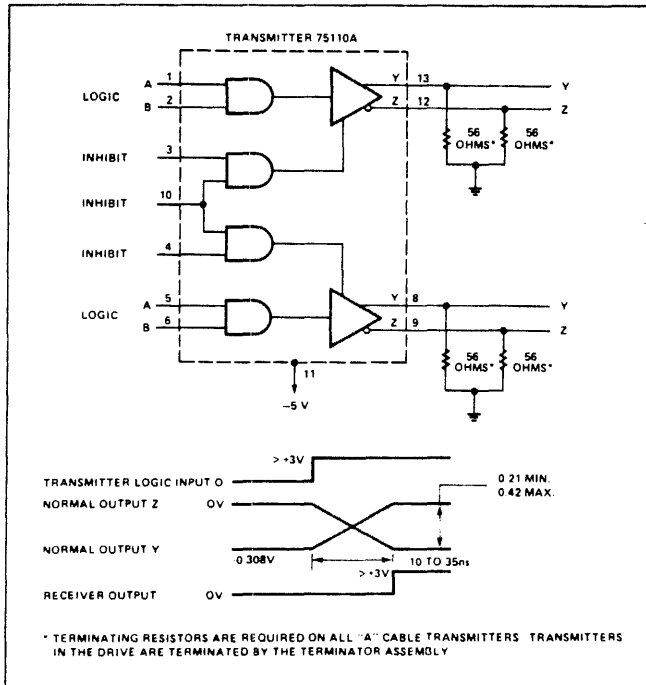
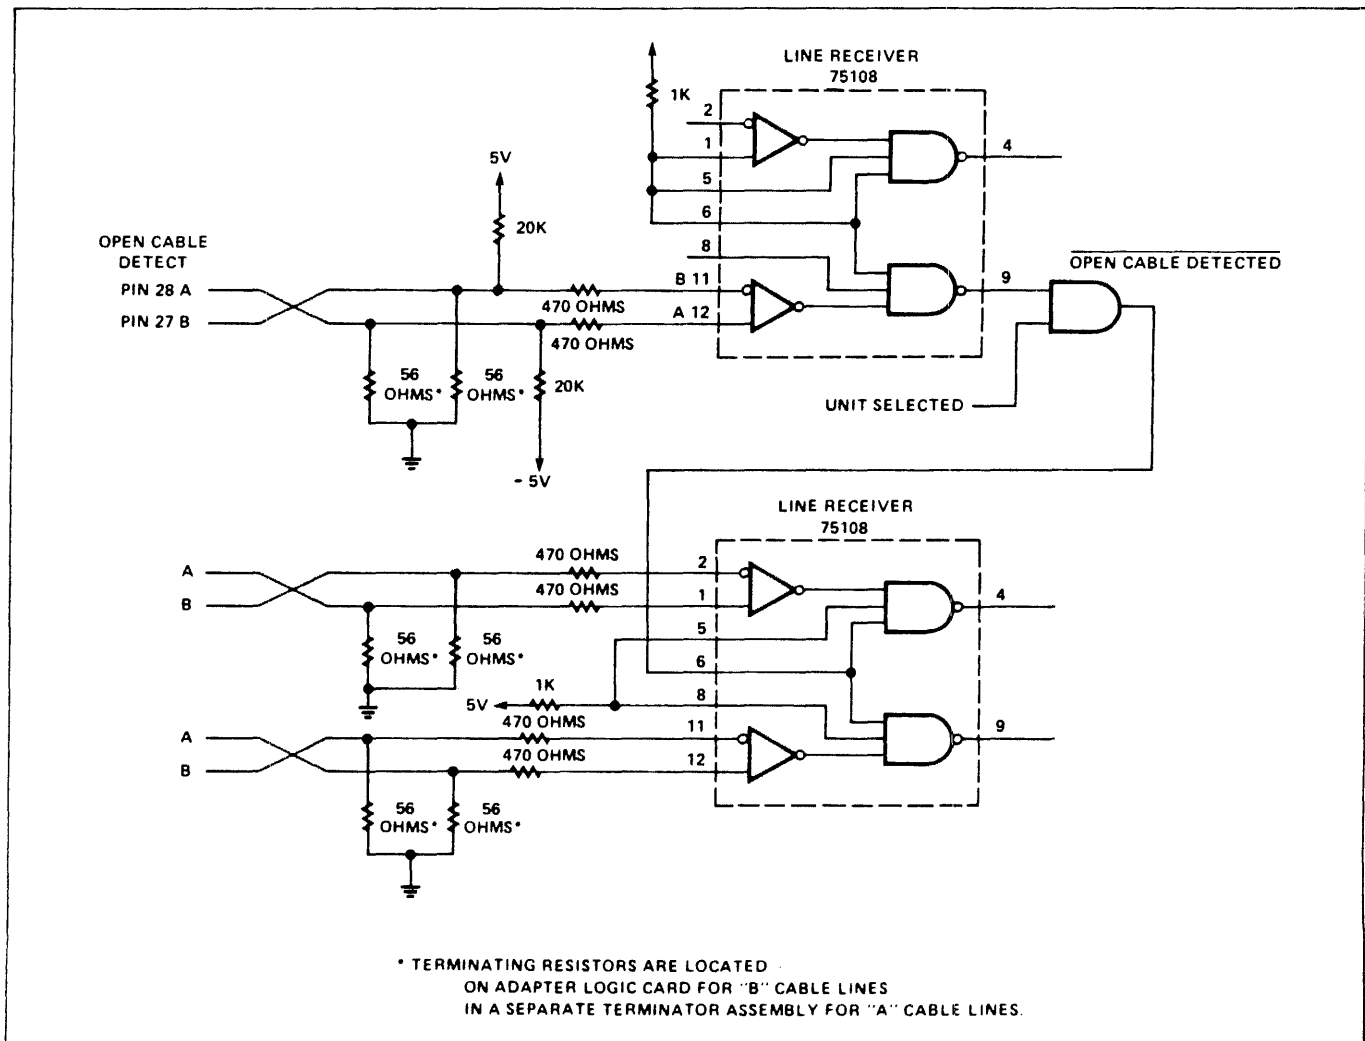

Figure 11.4-2 Control Line Transmitter
Figure 11.4-3 Control Line Receiver
2. Line Transmitter Characteristics The SMD standard line transmitters (Figure 11.4-2) are compatible with the line receivers described below.
Control Signals: see Figure 11.4-2.
Control Signals: On the "A" Cable, the transmitters are connected to the I/O line so that the output, labeled Z (Figure 11.4-2) is connected to the odd numbered pin of the cable connector. This output in turn connects to the receiver pin labeled B (Figure 11.4-3) except for the Unit Selected line, which is connected in the opposite manner.
3. Input Amplifier (Receiver) Characteristics The drive's input amplifier (Figure 11.4-3) is SMD-standard compatible with the line transmitter described above.
Control Signals: The input, labeled B (Figure 11.4-3) of the receiver is connected to the odd numbered pin of the cable connector, and thus connects to the transmitter pin labeled Z (Figure 11.4-2).